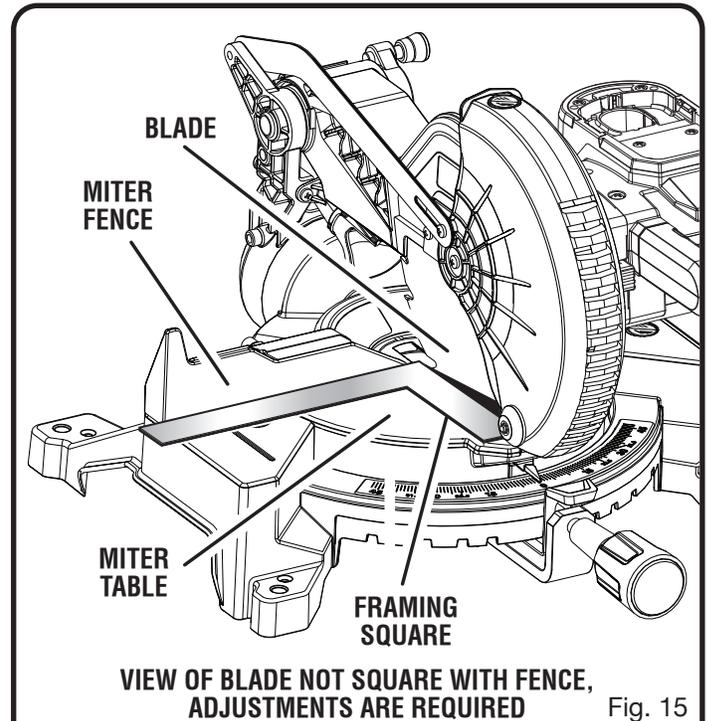

Fig. 15
- If the front or back edge of the saw blade angles away from the square as shown in figures 15 - 16, adjustments are needed.